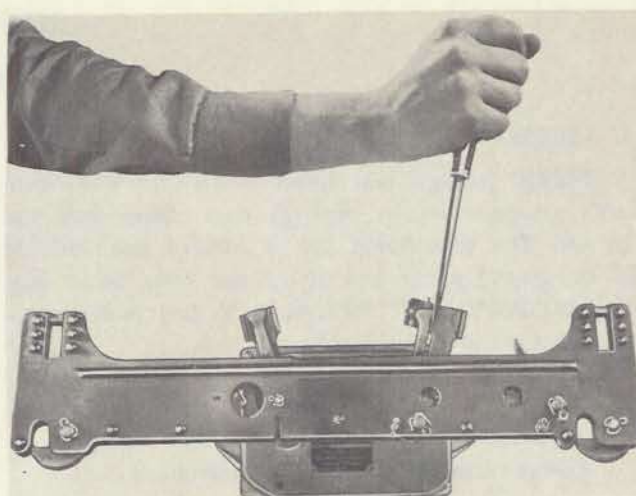

Figure 57—Second Emergency Bomb Bay Release
(2) To release individually "unarmed," pry bomb hanger release arm past the spring loaded stop on the bomb release actuating arm of the bomb shackle (fig. 57). (If electrical solenoid fusing control for nose and/or tail of bomb is provided, they may be released either armed or unarmed.)